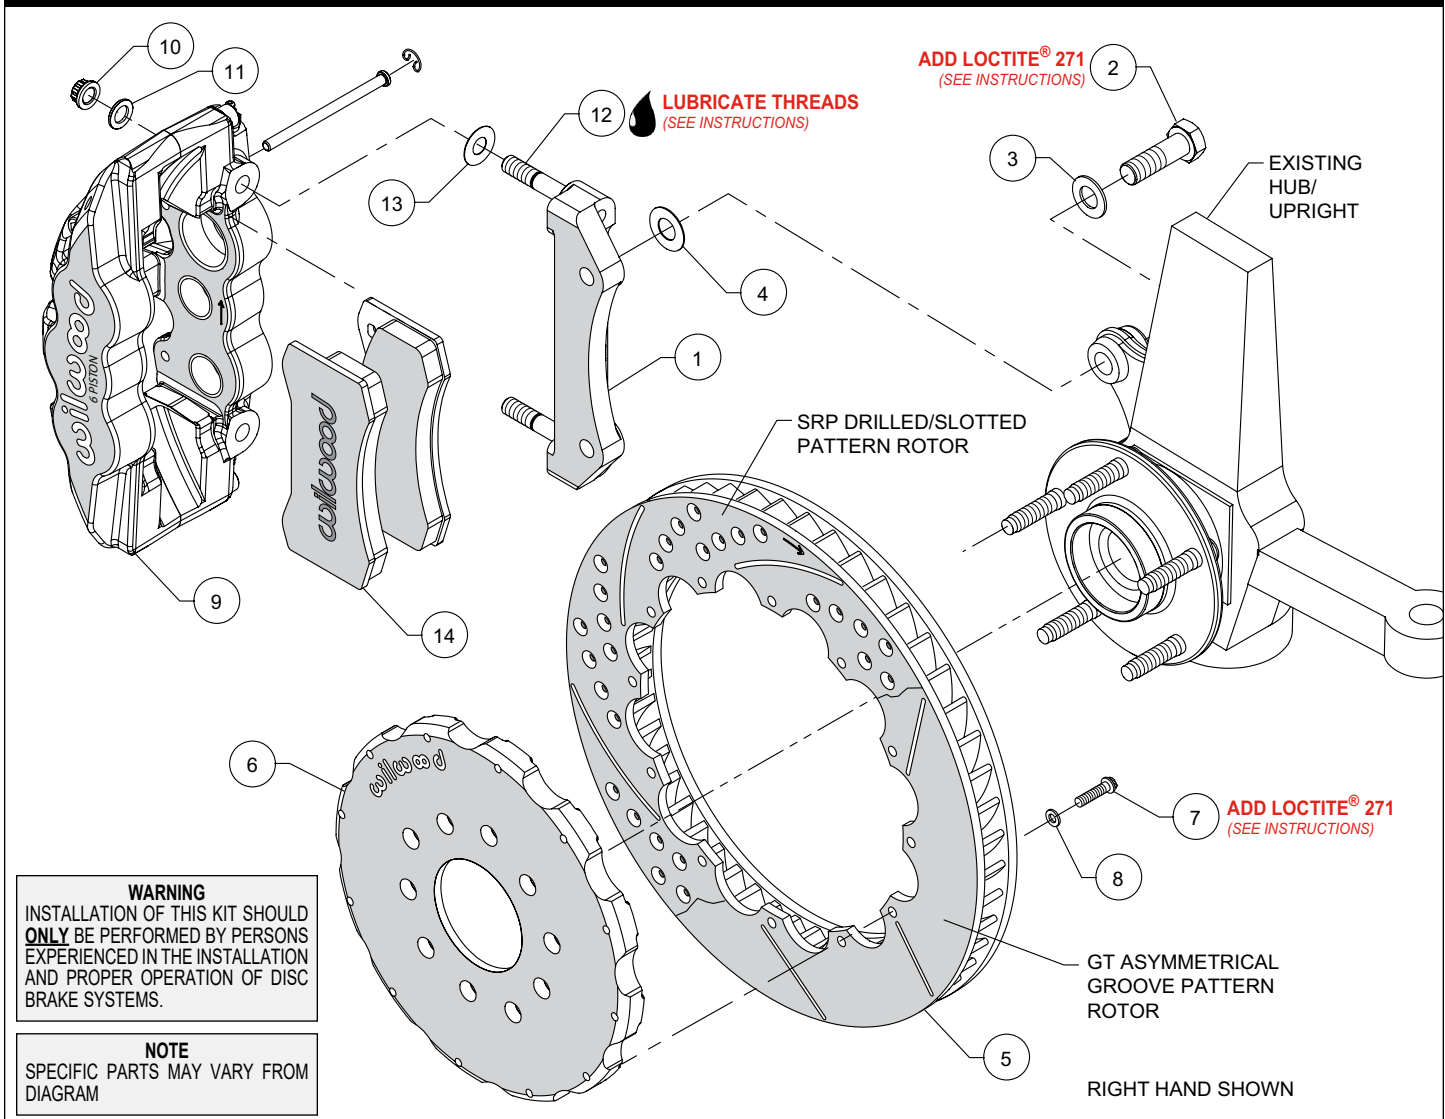
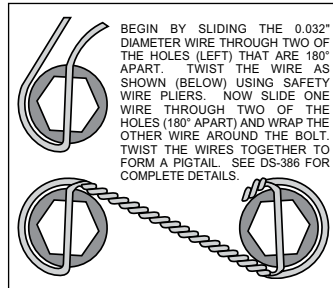

Figure 1. Typical Installation Configuration
Figure 3. Safety Wire Diagram
**NOTE:** Numbers in parenthesis refer to the parts list and Figure 1 on the preceding pages.
- The caliper mount bracket (1) should initially be installed with clean, dry threads on the mounting bolts. Orient the bracket, as shown in Figure 1 and Photo 1, and install using bolts (2) and washers (3). Initially place one .029" thick shim (4) on each bolt between the bracket and upright, Figure 1. Temporarily tighten the mounting bolts. **NOTE:** The bracket must fit squarely against the mount bosses on the upright. Inspect for interference from casting irregularities, machining ridges, burrs, etc. Later, after the caliper alignment has been checked, the mount bolts will be secured using red *Loctite*® 271.
- Orient the rotor (5) and the hat (6) as shown in Figure 1 and Photo 2. Attach rotor to hat using bolts (7) and washers (8). Apply red *Loctite*® 271 to the bolt threads and torque to 155 **in-lb** using a criss-cross pattern. For an added measure of security, the bolts may be safety wired using standard 0.032 inch diameter stainless steel safety wire as shown in Figure 3. Refer to Wilwood's data sheet DS-386 (available at [www.wilwood.com/Pdf/DataSheets/ds386.pdf](http://www.wilwood.com/Pdf/DataSheets/ds386.pdf)) for complete safety wire installation instructions.
- **NOTE:** This kit contains distinct right and left hand calipers that must be mounted in a specific direction, as described below. Lubricate the caliper mounting studs (12) with lightweight oil. Initially place one .030" thick shim (13) on each stud between the caliper and the bracket, as shown in Figure 1 and Photo 4. Mount the caliper (9) onto the bracket (1) using lock nuts (10) and washers (11), Figure 1. Temporarily tighten the lock nuts. Ensure that the caliper is mounted so the largest pistons are at the rotor exit end of the caliper, in relation to the direction of the rotor. View the rotor through the top opening of the caliper. The rotor should be centered in the caliper, Photo 5. If not, adjust by adding or subtracting shims (4) between the bracket and the upright. Always use the same amount of shims on each of the two mounting bolts. Once the caliper alignment is correct, remove the bracket mounting bolts one at a time, apply red *Loctite*® 271 to the threads, and torque to 77 ft-lbs.
- Remove the caliper (9), then remove the two pad retaining pins from the caliper by carefully popping out the pin retaining clips and sliding out the pins. Insert the brake pads (14) into the caliper from the bottom, Figure 1 and Photo 6. With the friction material facing the rotor, secure the brake pads in place with the pad retaining pins and clips, Photo 7. Reinstall the caliper onto the caliper mounting bracket and temporarily tighten the lock nuts. Check that the top of the brake pad is flush with the outside diameter of the rotor, Photo 8. If not,